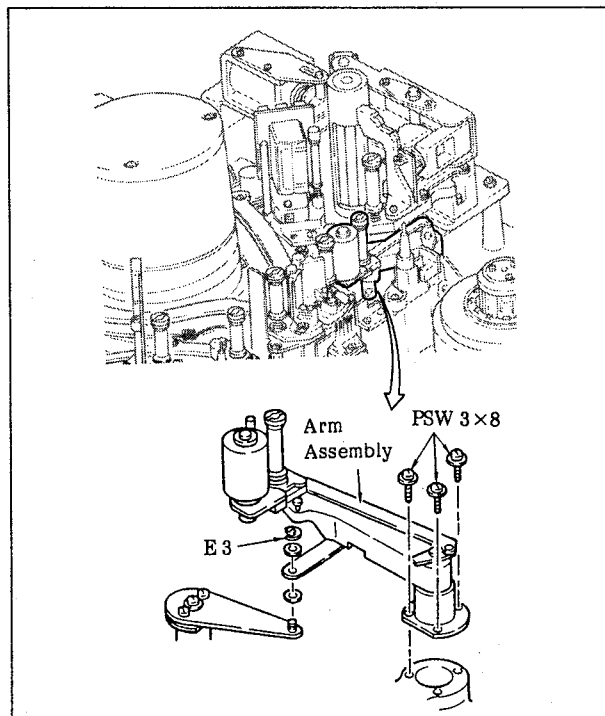

Fig. 6-112 Removing the Arm Assembly
1. Remove the arm assembly by referring to Figure 6-112.